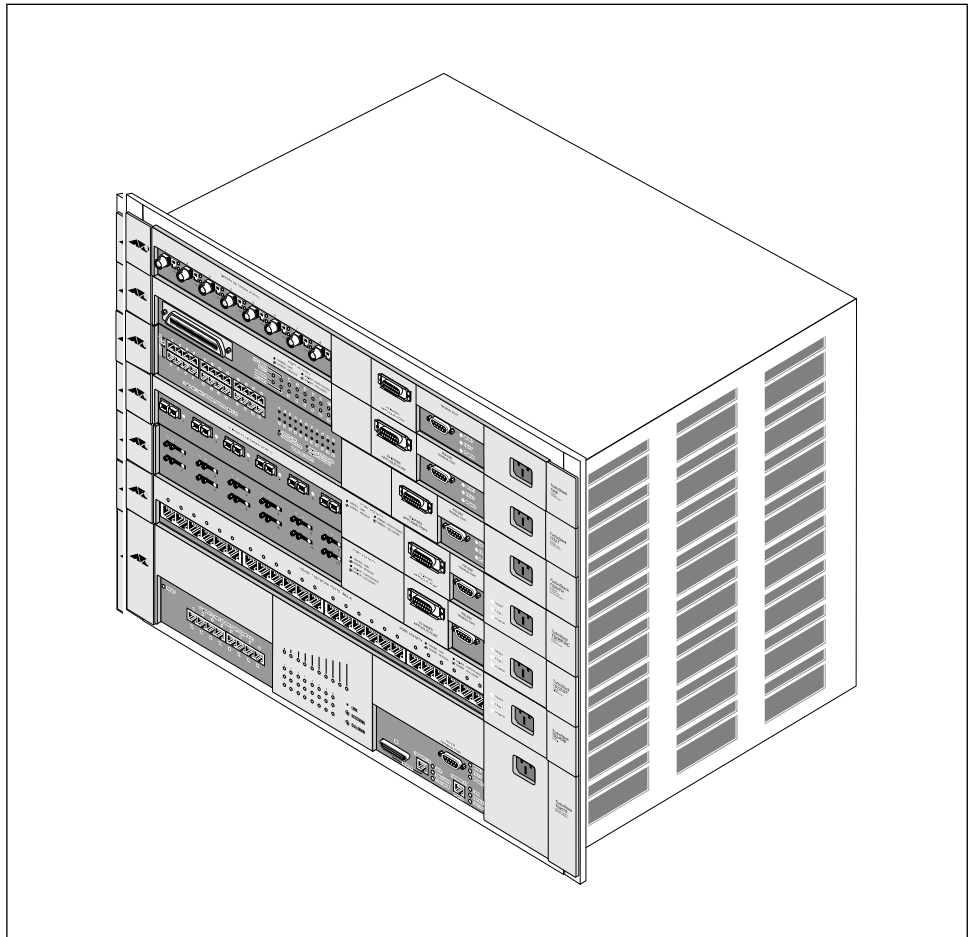

Figure 4: The AT-TS90TR Mounted in a *TurboStack* chassis
Figure 4 shows the AT-TS90TR mounted in a fully-populated, 7-slot segmented backplane chassis (AT-C36RG7). The *TurboStack* chassis is shipped with all mounting positions covered with air dams (blank face-plates). When you mount a unit in the *TurboStack* chassis, remove the air dam from the mounting position to be used, but leave all other air dams in place in unused positions. The air dams ensure proper cooling air flow for all units mounted in the chassis.
1. Engage the mounting brackets on each side of the AT-TS90TR in the bottom position of the *TurboStack* as shown in Figure 4.